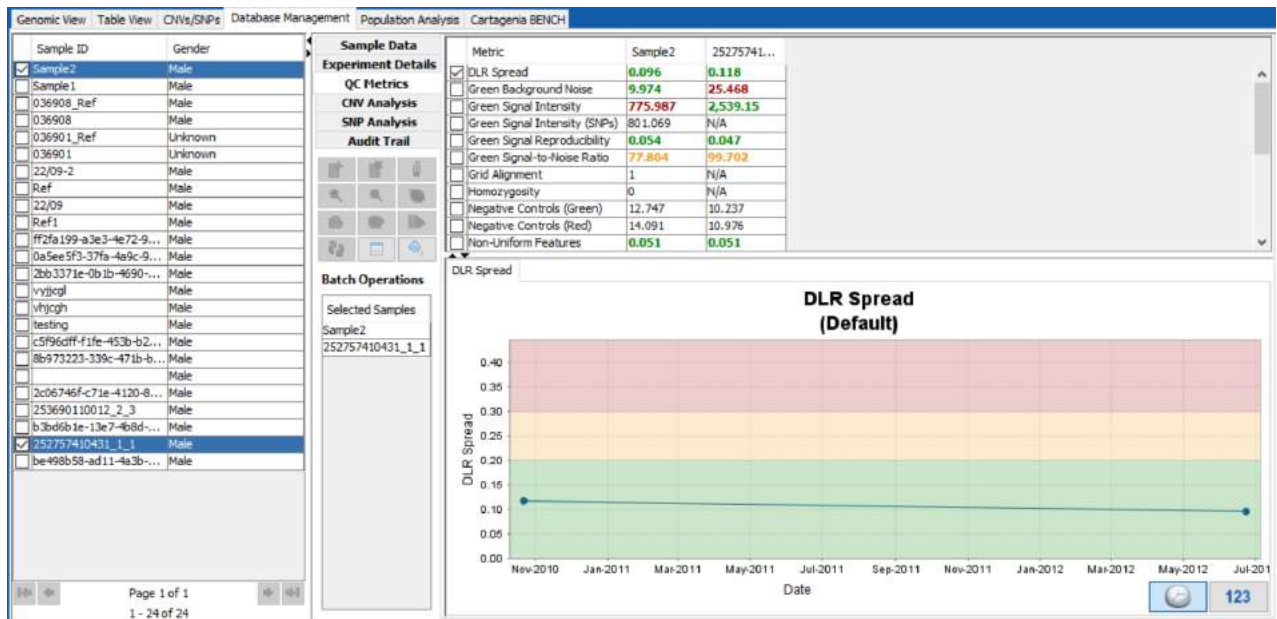

Figure 29: Database Management tab showing QC metric view.
- **Database Management Tab** — It is also possible to view sample quality metrics from the **Database Management** tab. This option offers the additional functionality of plotting QC metrics across a number of samples. In order to do this, all sample data must first be submitted to the database. After doing this, navigate to the **Database Management** tab, as seen in Figure 29. It is then possible to select all samples you want to view using the tick boxes in the left table (which displays sample ID and gender by default). Then select **QC Metrics** from the central bar and a table should appear on the top right, where the first column represents QC metrics and every other column a selected sample. At the left side of this table, tick boxes are used to select which metrics to plot. Plots are displayed on the right-hand side underneath the metrics table (e.g. the DLR spread graph in Figure 29). Multiple graphs can be plotted simultaneously, but have to be viewed one at a time by clicking on the tabs at the top of the displayed graph.